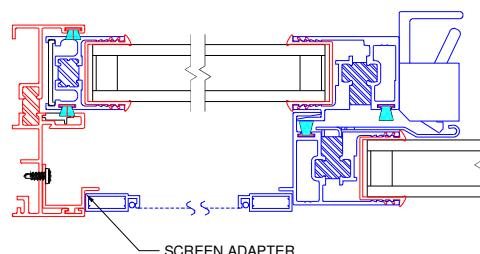

Figure 22:
1. Insert the screen adapter into the outer channel of the jamb (Figure 22).